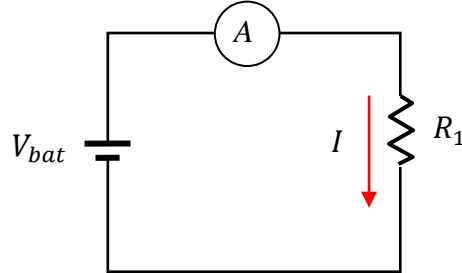

Figure 5. Circuit for Section A.
- Using your voltmeter, measure the voltage supplied by each of your two batteries under conditions of “no load” – i.e., with nothing connected to the batteries. Select the battery with the larger voltage and record this as “Fixed Voltage, V_{bat} ” in Table A on your data sheet. On your circuit board, construct the circuit shown in Fig. 5 consisting of your chosen battery and resistor R_1 . Put one of your multimeters in the *ammeter mode* and connect it in *series* with R_1 , as shown in Fig. 5.